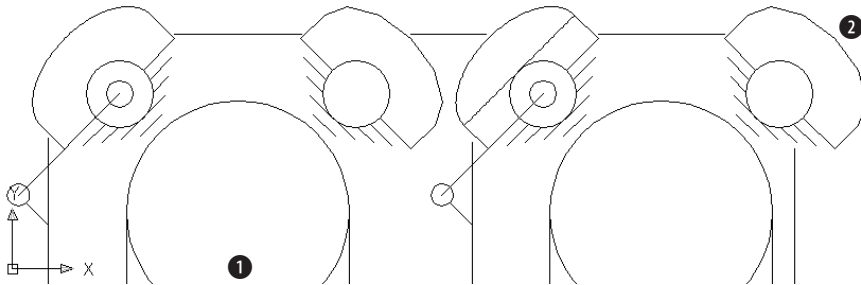

Figure 8-2: The air compressor is zoomed in so that you can see only part of the drawing.
1. Open ab08-a.dwg from the CD-ROM. This air compressor was used in an exercise in Chapter 7, but this display is magnified so that you cannot see the entire drawing. The air compressor is shown in Figure 8-2.
2. Choose Pan Realtime from the Standard toolbar. Move the cursor to **1** in Figure 8-2, click, and drag to **2**. The air compressor moves up and to the right. (Note that by the time you get to **2**, the display of the air compressor has moved—but you should drag to where **2** was on the screen.) Press Esc.